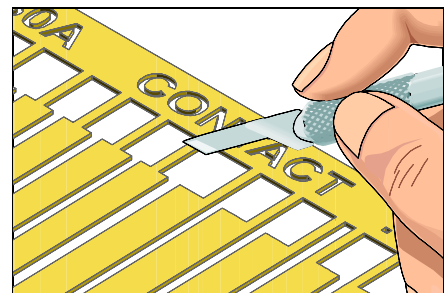

Figure 3: Cut out the new edge contact.
9. Cut out and trim the new edge contact. Cut out from the plated side. Cut the length to provide the maximum allowable joint if lap soldering. Minimum 2 times the circuit width. Leave the new edge contact extra long. The excess material will be trimmed after curing. (See Figure 3).